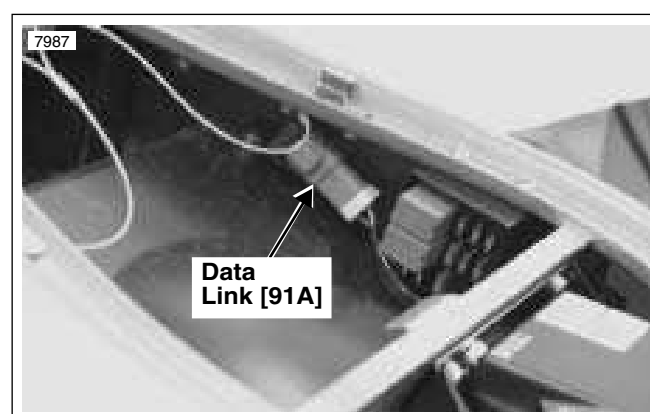

Figure 2-128. Data Link Location
1. See Figure 2-128. Detach data link connector [91A] from trunk.
5. See Figure 2-128. Attach data link connector [91A] to trunk.